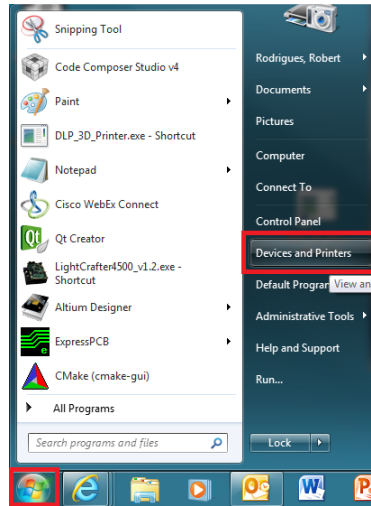

Figure 2-3. Devices and Printers In The Windows Start Bar
3. After extraction of the driver files, click the Windows button and open **Devices and Printers**, as shown in Figure 2-3.